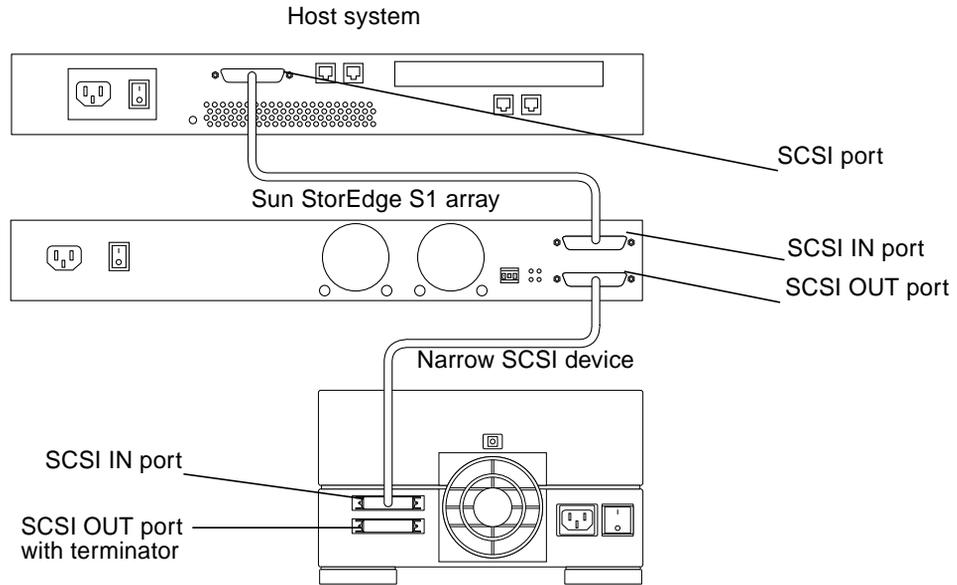

FIGURE 3-22 Daisy Chaining an Array With a Narrow SCSI Device
- If the last device in the SCSI daisy chain is a *narrow* SCSI device, install an external terminator on the SCSI OUT port on that device (FIGURE 3-22).